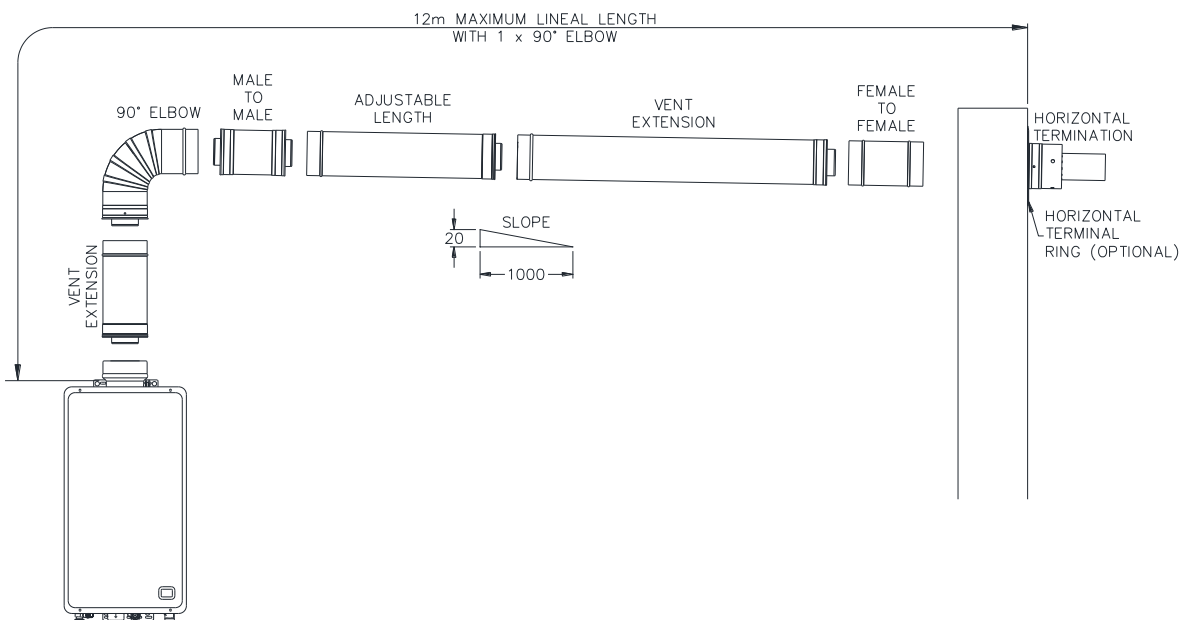

Figure 19- Typical Installation – Horizontal Terminal with One Elbow
- Use Male to Male and Female to Female Adapters to reverse the direction of flue insertion where three or more sections of flue are used in a horizontal flue run and the flue drains toward the flue terminal. Refer to Figure 19- Typical Installation – Horizontal Terminal with One Elbow on **page 34**.